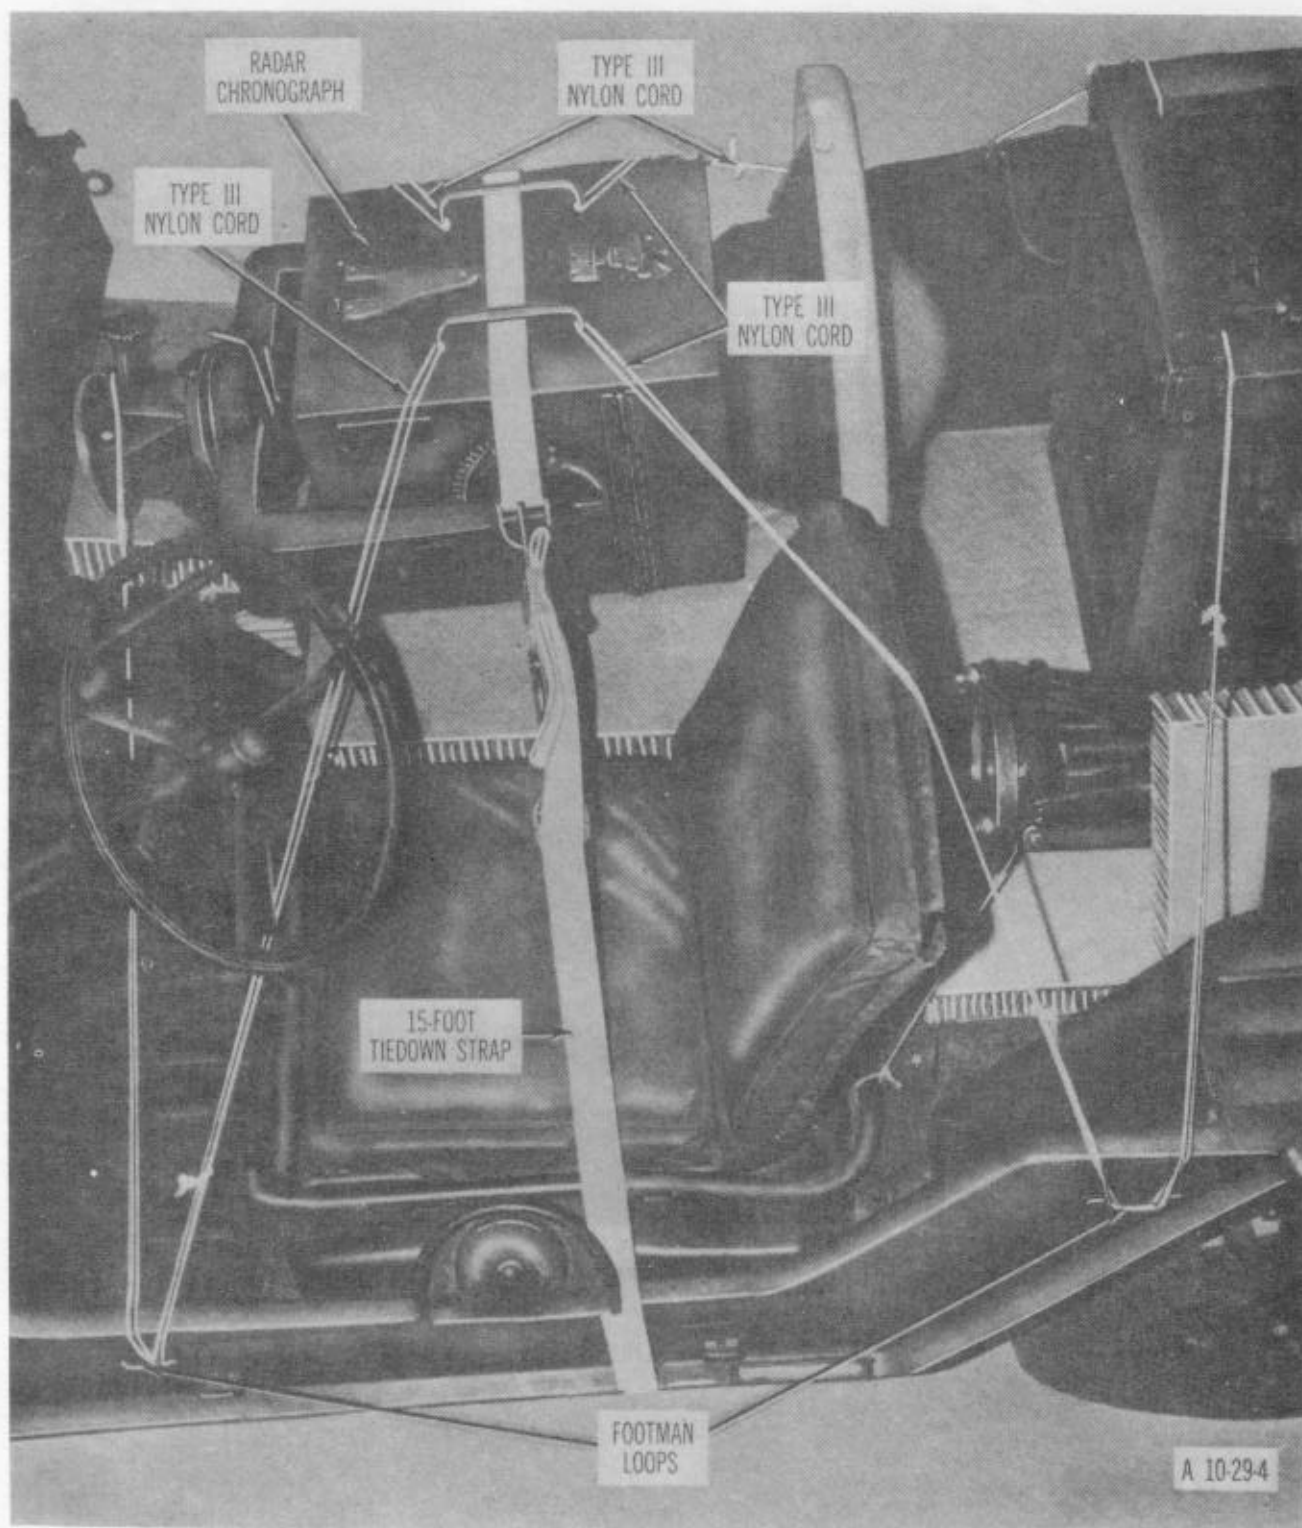

Figure 6-11. Radar chronograph stowed.
f. Stowing Radar Chronograph. Position radar chronograph on honeycomb on passenger's side. Secure with a 15-foot tiedown strap around truck and radar chronograph as shown in figure 6-11. Using type III nylon cord, make ties from handles to footman loops and from footman loop over base of chronograph back to footman loop (fig 6-11).